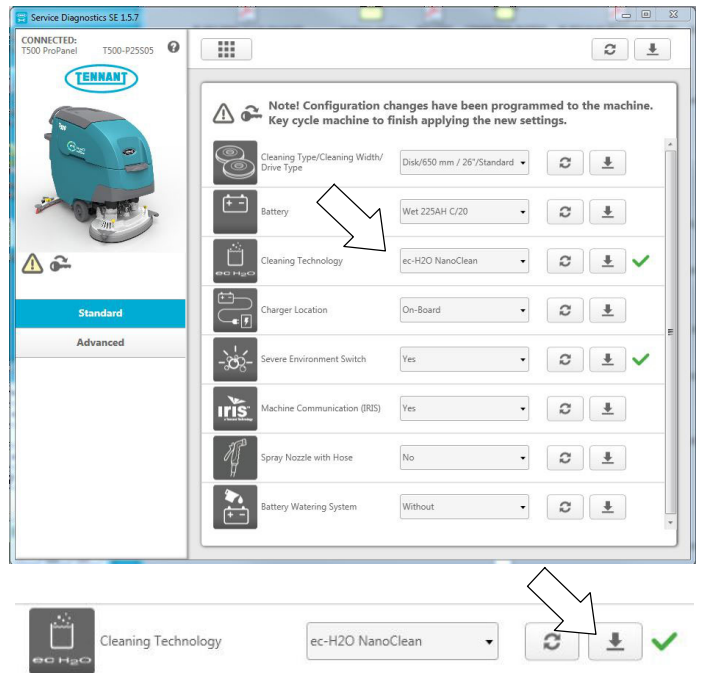

Fig. 43
4. Change the Cleaning Technology to "ec-H2O NanoClean" from the pull-down menu (Figure 43). Then press the down arrow button to program the machine. A green check will appear next to the down arrow button when programmed.